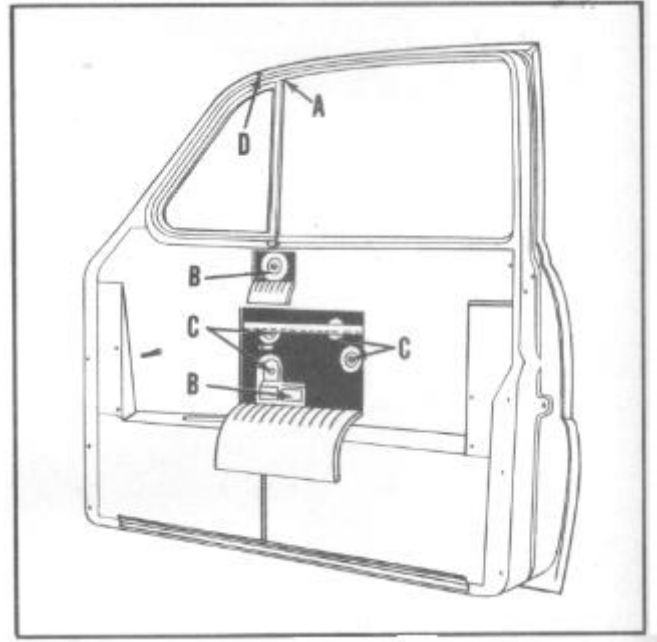
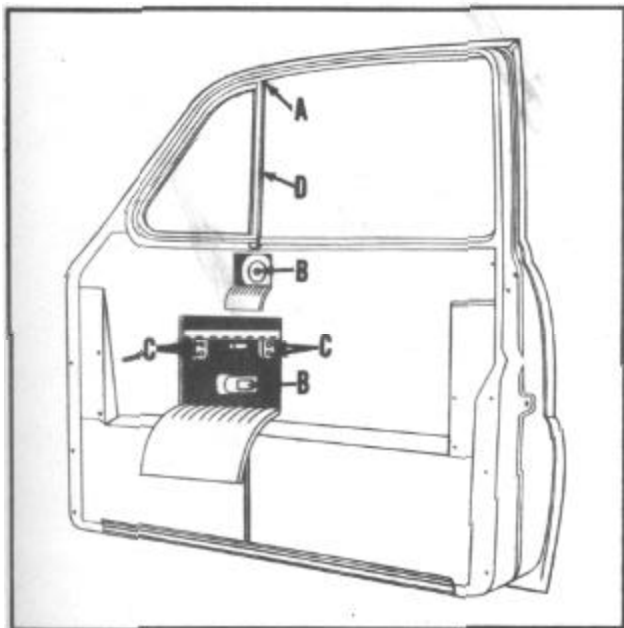

FIGURE 27
FIGURE 28
3. Cut inner liner as shown in Figure 27 for sedans and Figure 28 for coupes and broughams.
4. Remove screw (A) from inside upper end of center glass channel and screws (B) which attach center glass channel to door inner panel. (Do not remove center glass channel from door.)
5. Remove screws (C) attaching regulator to door inner panel.
3. Remove screws (B), Figure 27, attaching wing frame to inner panel.
4. Remove small Phillips head screw (D), Figure 27, from top of door.
5. Remove screw (A), Figure 27, from inside upper end of center glass channel.
4. Cut door inner liner as shown in Figure 28.
5. Remove Phillips head screw (A),
6. Remove two screws (B).
7. Remove center glass channel (D) or lower it into the door.